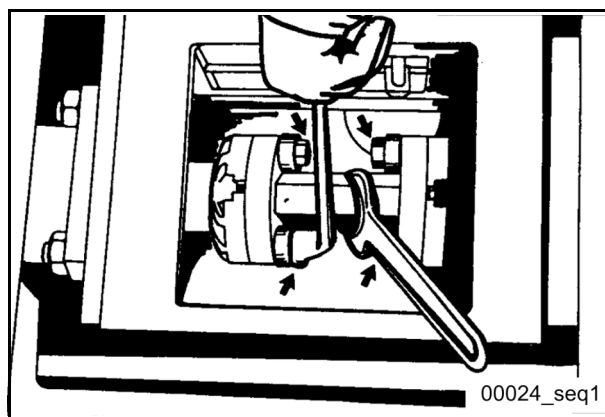

Fig. 336 Piston change
- Make sure the fastening screws are tight (**Fig. 336**).